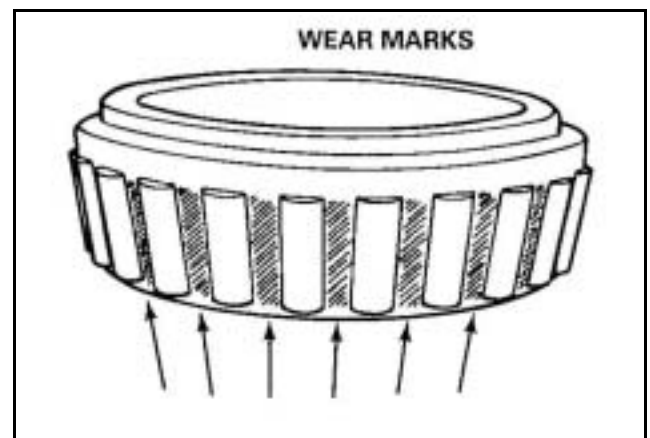

Figure 38
- e. Bright wear marks on the outer surface of the roller cage. **Figure 38.**